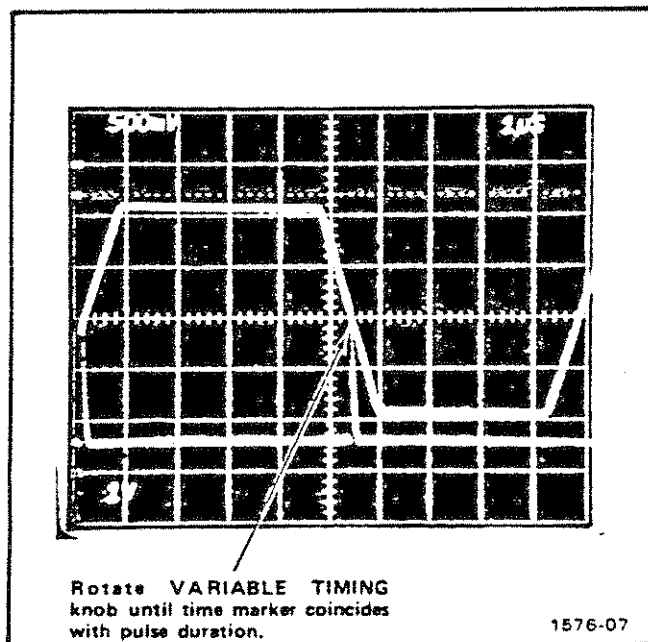

Fig. 2-6. Measuring pulse duration.
8. To check pulse duration, rotate the VARIABLE TIMING knob until time marks coincide with pulse duration, as shown in Fig. 2-6.